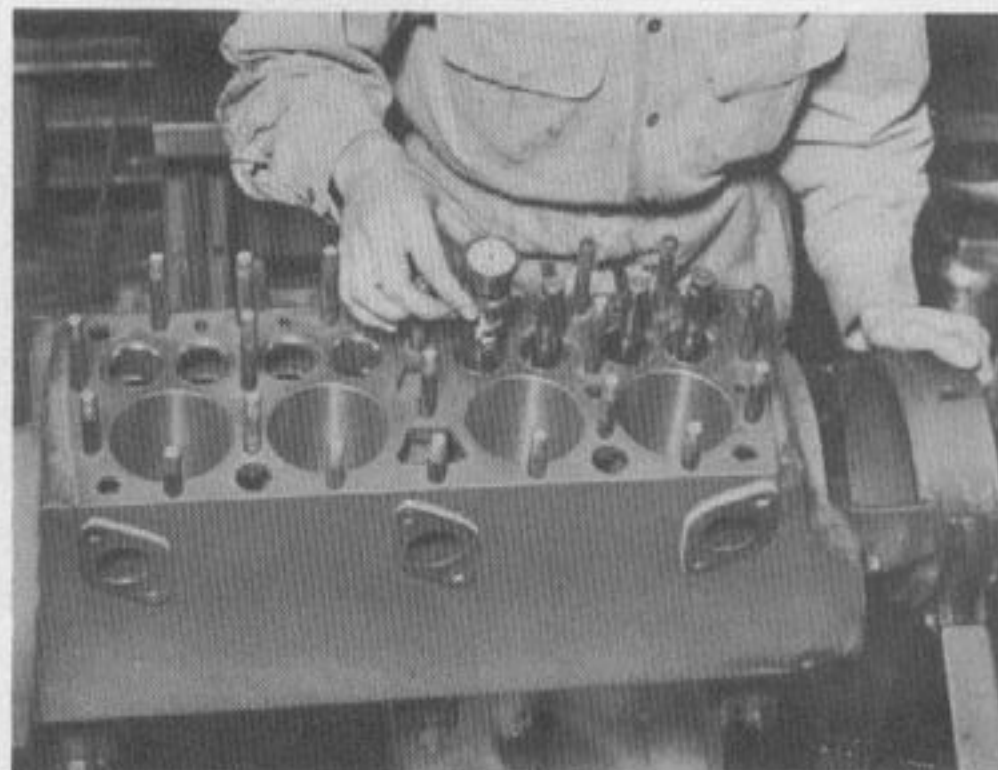

Figure 69—Checking Valve Seat
(5) **REFACE VALVE SEAT.** Make sure that the valve seats are in good condition. Keep the refacing stone properly dressed. The valve grinder pilot must fit snugly. If the width of the valve seat face is more than 0.090 inch for the intake or 0.0100 inch for the exhaust after refacing, the seats should be narrowed by means of a valve port angle cutter. Check an occasional valve seat with a valve seat dial gage as shown in figure 69 to be sure the grinder is doing its work properly.